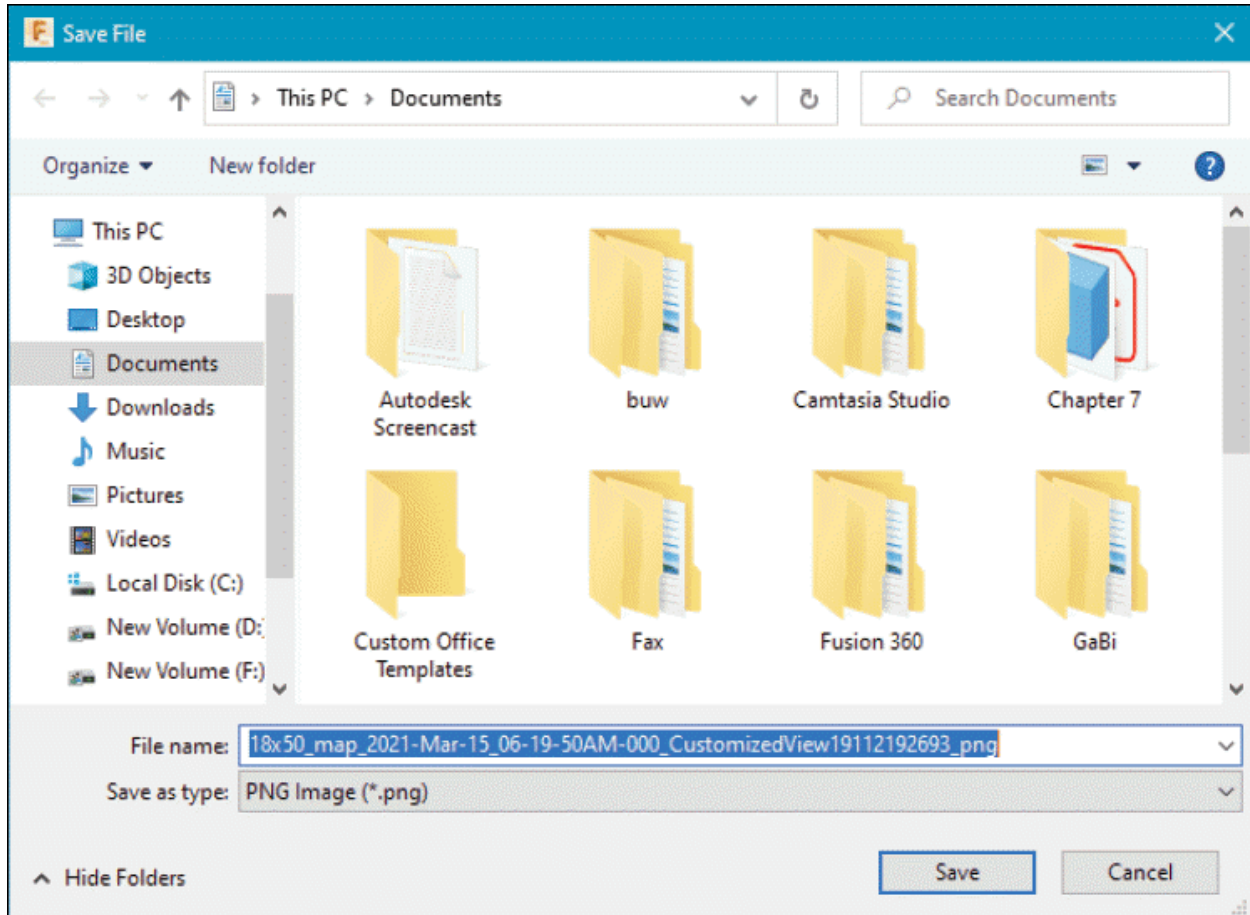

Figure-30. Save File dialog box
- Select desired **Download image as...** button. The **Save File** dialog box will be displayed; refer to Figure-30.